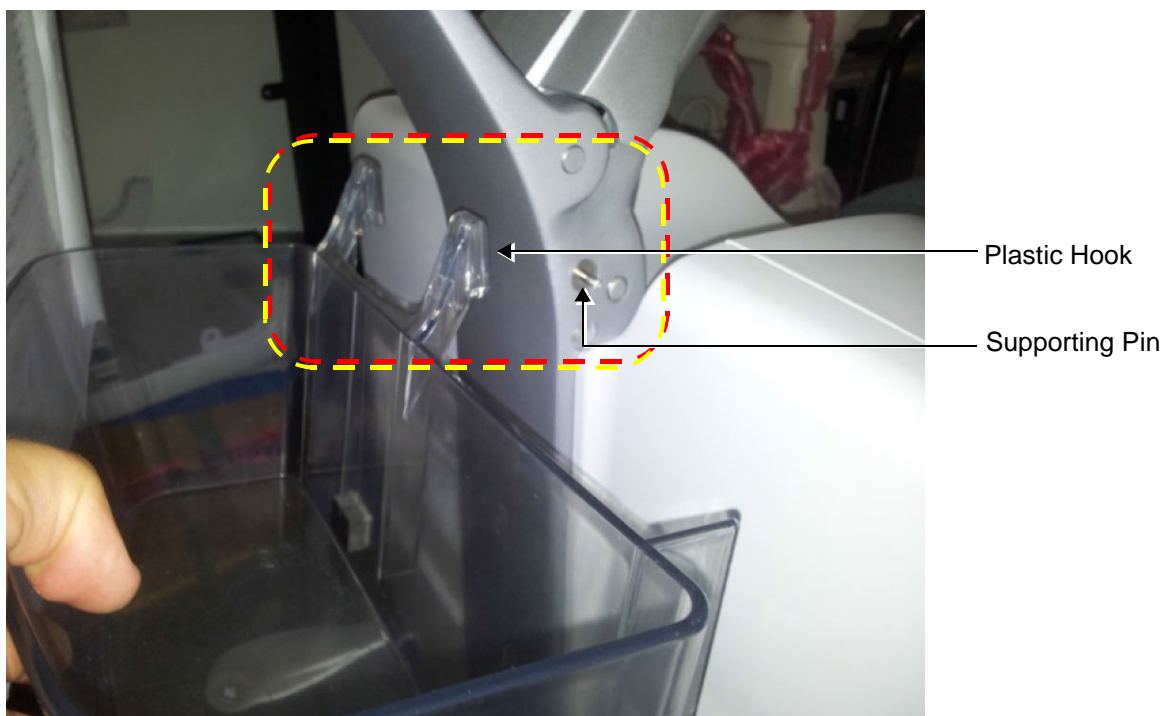

Figure 8-26 Releasing the Rear Folder Box from the Support Column
- 2) Working from the rear of the system, hold the rear folder box with both hands and carefully lift it *upwards* to release the two plastic hooks from the two supporting pins (located one each side of the Support Column - illustrated in Figure 8-26).
- 2) Holding the rear folder box with both hands, carefully align it against the rear of the support column, then push it *downwards* to secure the two plastic hooks onto the two supporting pins located each side of the support column- refer to Figure 8-26.